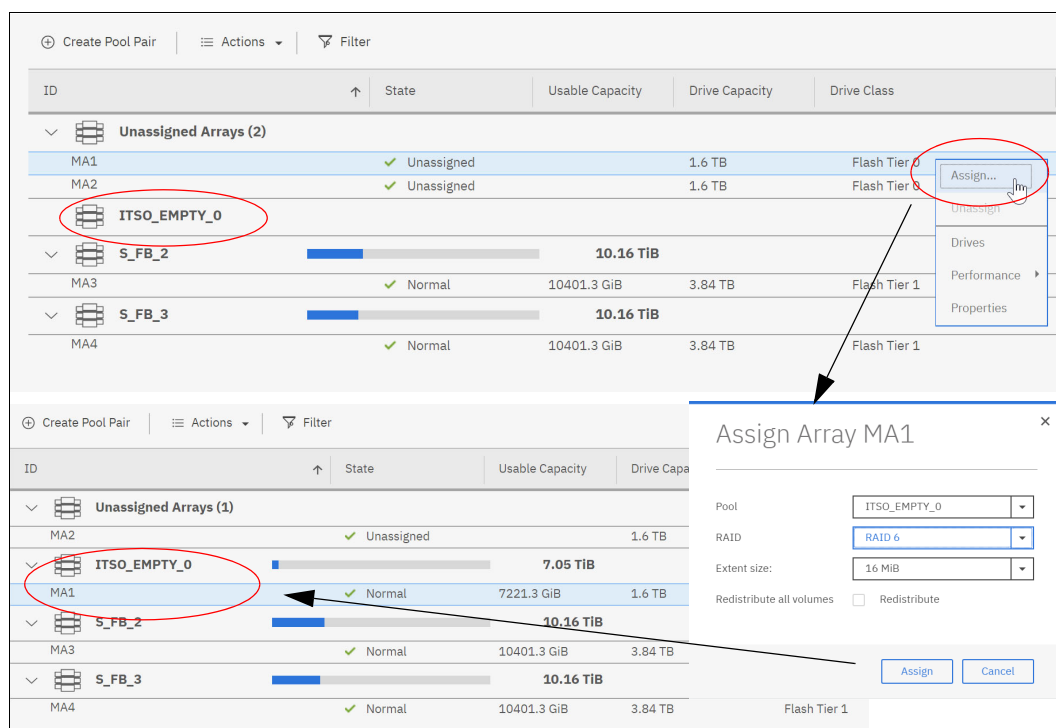

Figure 9-44 Assigning an array to a single pool
4. Assign one or more arrays to the single pool, as shown in Figure 9-44.